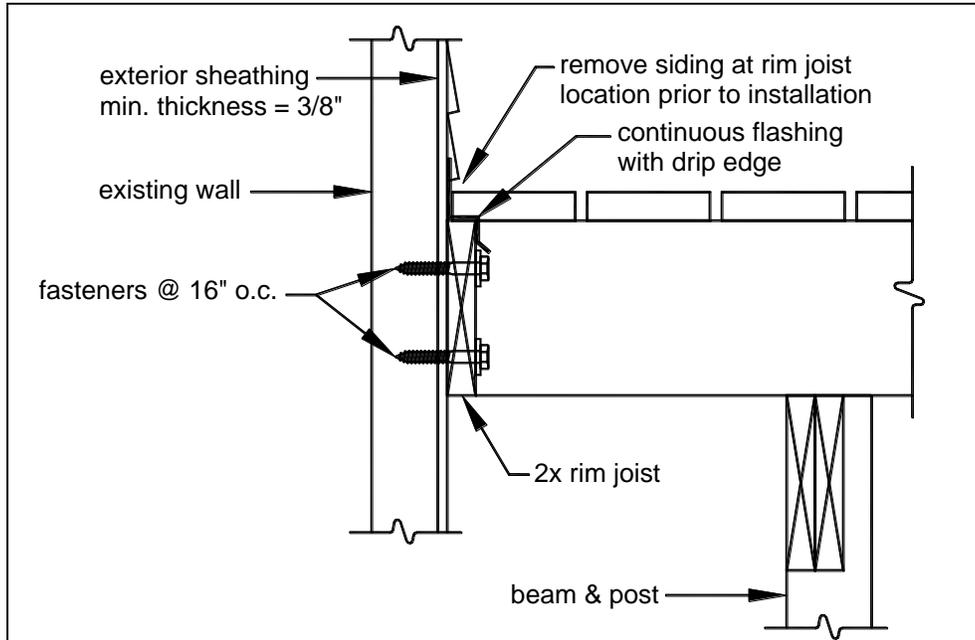

FIGURE 15: ATTACHMENT TO HOUSE LATERAL SUPPORT
2. **Attachment To House:** lateral support is provided by the attachment of the deck rim joist to the existing house as shown in FIGURE 15. The existing exterior wall must have sheathing consisting of structural wood panels with a minimum thickness of $\frac{3}{8}$ " , and the fasteners shall attach to an existing band board or wall stud. The deck rim joist may also attach to a masonry or concrete wall, but not to a brick veneer. YOU MUST VERIFY THIS CONDITION IN THE FIELD PRIOR TO UTILIZING THIS METHOD. Fasteners shall be 16" on center and must penetrate existing wall studs. See also the provisions noted on sheet 6. Flashing over the rim joist is required and must be installed in accordance with the flashing provisions noted on sheet 4. For rim joist size and requirements, see sheet 11.